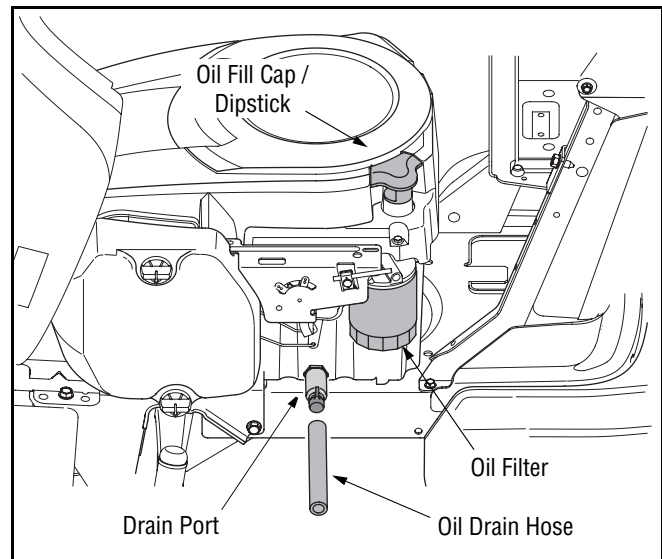

Figure 15
- Pop open the protective cap on the end of the oil drain valve to expose the drain port. See Figure 15
- **Slowly** pour oil into the fill tube. Fill the crankcase until the oil level reaches the full (**F**) mark on the dipstick (Refer to Figure 15 on Page 22).